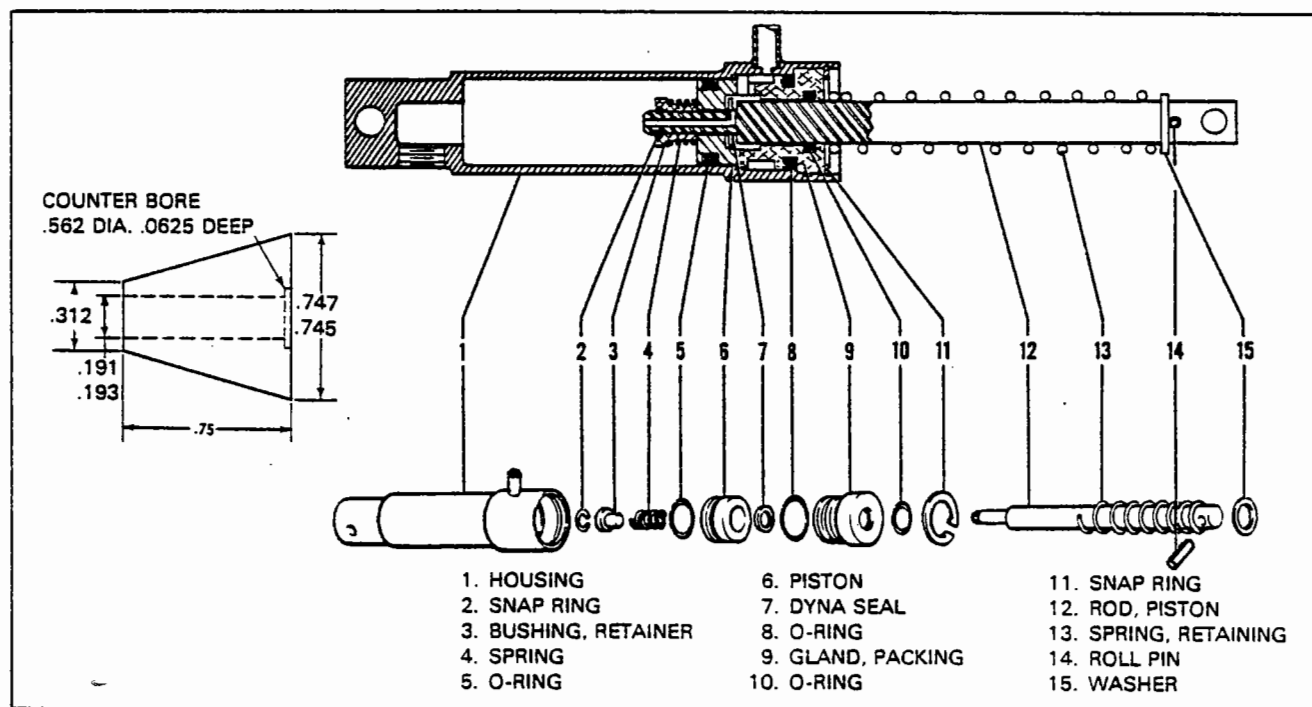

Figure 32-13. Brake Master Cylinder (Hand/Parking Brake)
1. Install new O-ring on the inside and outside of the packing gland and on the outside of the piston. (When installing teflon O-ring on piston, it is recommended that it be installed with the use of a cone placed against the piston. The cone may be constructed of plastic or metal with dimensions shown in Figure 32-13.)